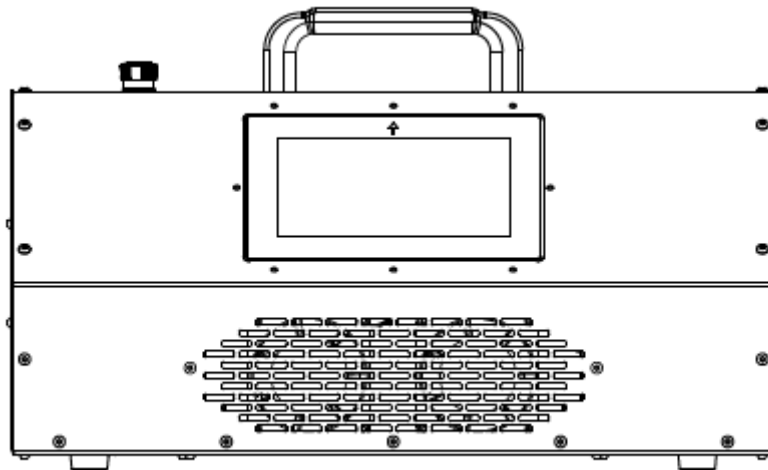

Figure 009
6. Select “FULL CHARGE” option on the charger display, see Figure 009.
7. Select desired charging current input on the left-side list, see Figure 009.